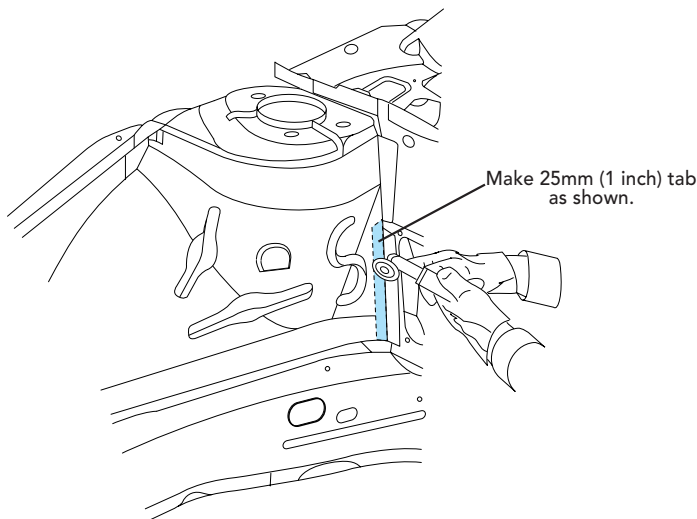

Fig. 4.8 — Cut Wheelhouse 25mm (1 inch) Forward of the Cowl Panel
- 4 Place a piece of 25mm (1 inch) wide masking tape (Fig. 4.8), on the forward contour of the wheelhouse at the flange where it attaches to the cowl panel.